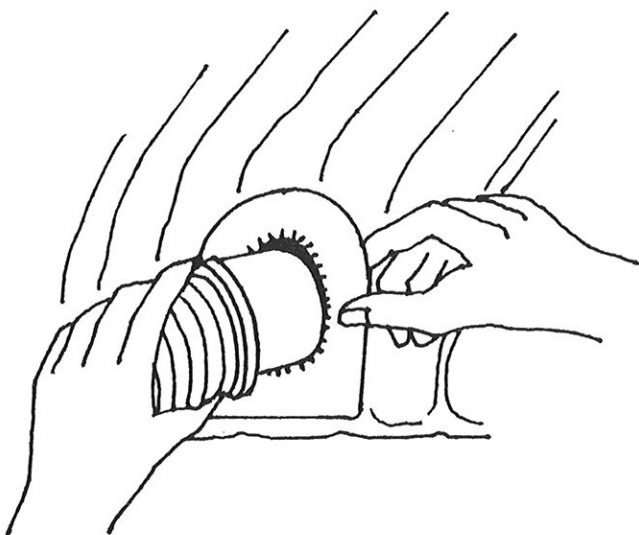

Figure 4. Attaching Air Hose to Cover
4. Insert the end of the hose into the cardboard connector on the Warming Cover until it fits tightly. Twisting the hose as you insert it will insertion easier. (See Figure 4.)